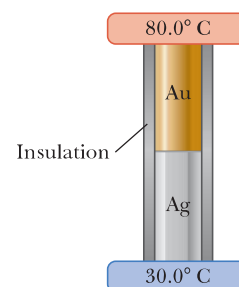

Figure P20.55
55. **M** A bar of gold (Au) is in thermal contact with a bar of silver (Ag) of the same length and area (Fig. P20.55). One end of the compound bar is maintained at  $80.0^\circ\text{C}$ , and the opposite end is at  $30.0^\circ\text{C}$ . When the energy transfer reaches steady state, what is the temperature at the junction?